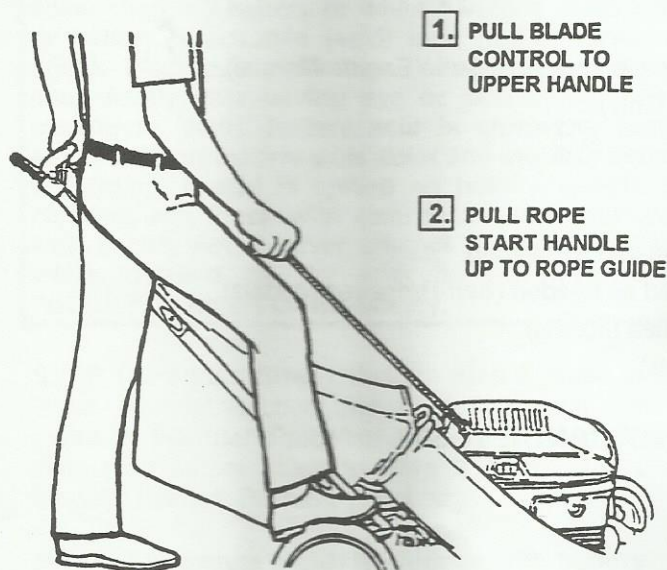
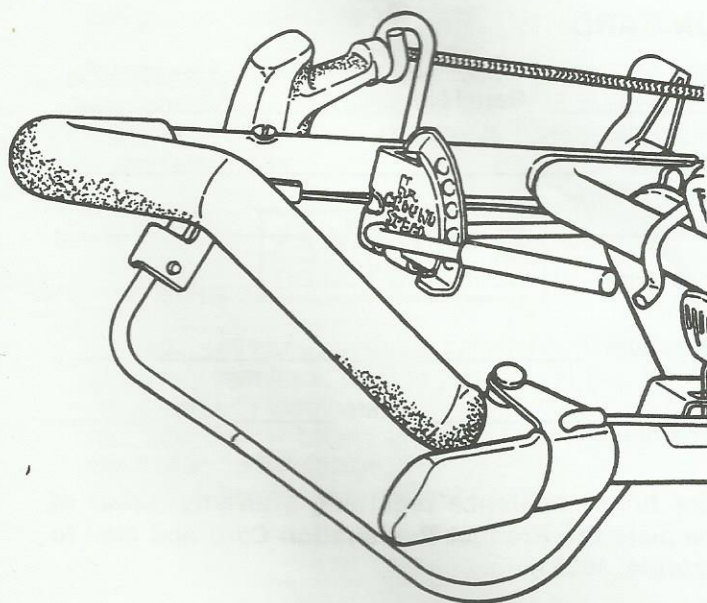

FIGURE 8
FIGURE 9
STEP 7: Pull blade control to upper handle and at the same time pull rope start handle up to rope guide located on right side of upper handle, for recycling models as shown or on the left side of upper handle for grass bagging models. See Figure 8. Continue holding rope start handle and release blade control, loop rope into rope guide. See Figure 9. Set-up is now complete for push models without electric starting or self-propelled drive system. For self-propelled models continue to the "Self-Propelled Models" Section. And for electric start models, continue to the "Electric Start Models" Section. Proceed to checklist found on last page of this instruction to prepare mower for use.